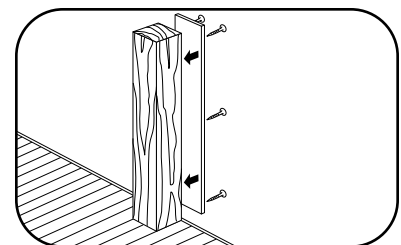

Fig. 30
- If using TimberTech Post Clad, cut the Post Clad to length as needed and fasten to all four sides of each 4x4 post (starting on one side and working around) offsetting each piece, using either finish or brad nails. Use two nails at the top, middle, and bottom of each piece (Fig. 30).